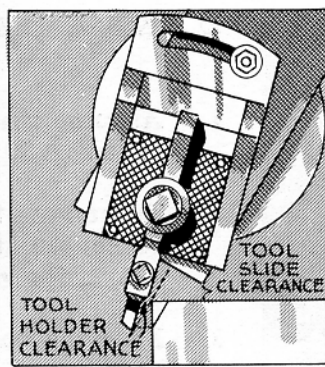

FIG. 417
6. Estimate the distance that the tool must project beyond the holder to permit the tool holder to clear the surface being machined (Fig. 417).
10. Adjust the tool holder and the tool, if necessary, so that the tool holder will clear the angular surface and the tool slide will clear the work (Fig. 417).